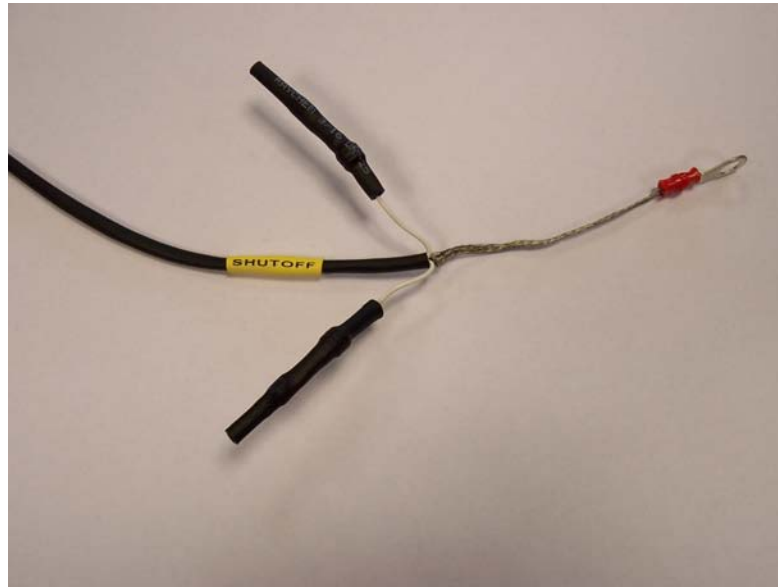

Fig. 2 – after isolating the contacts
2. Wrap crimps and wire ends in 02-9150-52170R1 DR25 heat shrink tubing 3/16, 50mm and heat-shrink it to isolate the contacts. See Fig. 2 for an illustration of the finished isolated contacts.